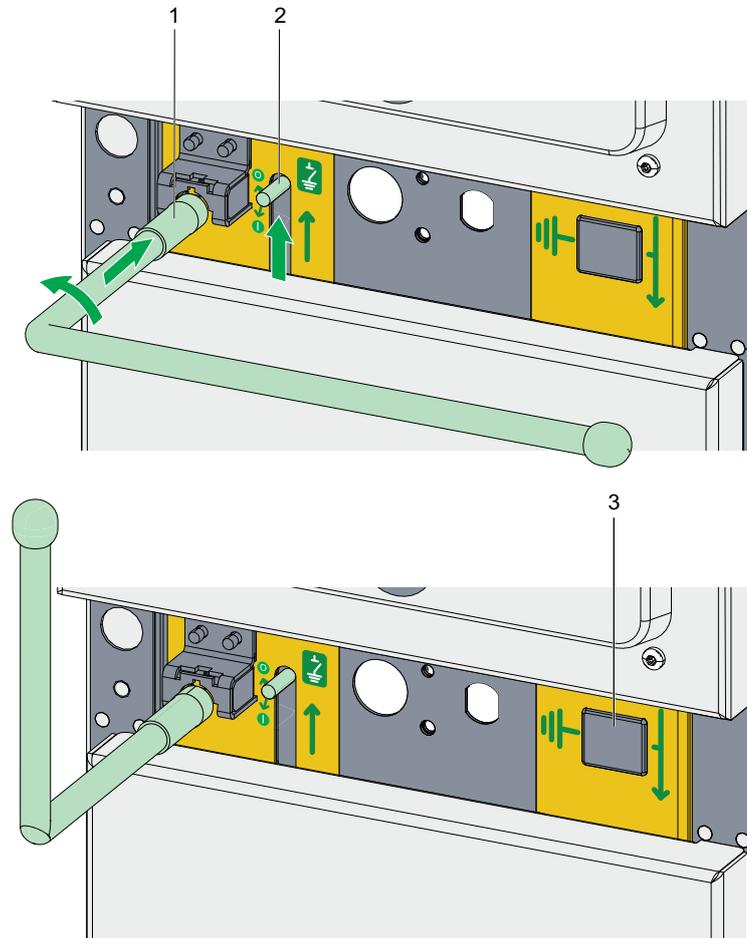

Figure 48
1. Push the slider (2) upwards and insert the handle (1) to the E/S with the handle rod pointing to the right. Refer to the Figure 48.
2. Turn the E/S handle (1) counter-clockwise by approximately 95°.
3. Check position indicator (3). Make sure that the E/S is OFF.
4. Remove the E/S handle (1) and place it back into the transport trolley.